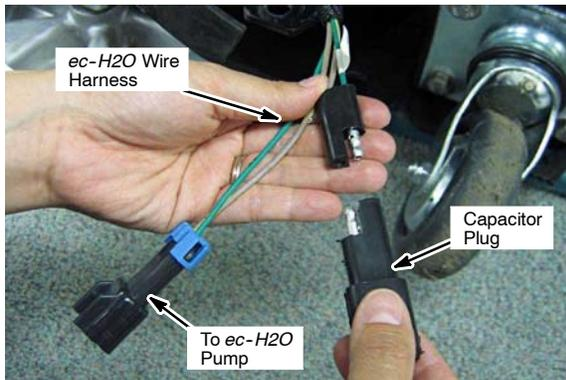

Fig. 37
- Connect the capacitor plug [p/n 1040868] to the *ec-H2O* wire harness that was routed down to the scrub head area (Figure 37).